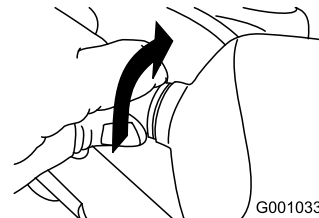

Figure 63
- Turn the base of the bulb counterclockwise until it stops (Figure 63).